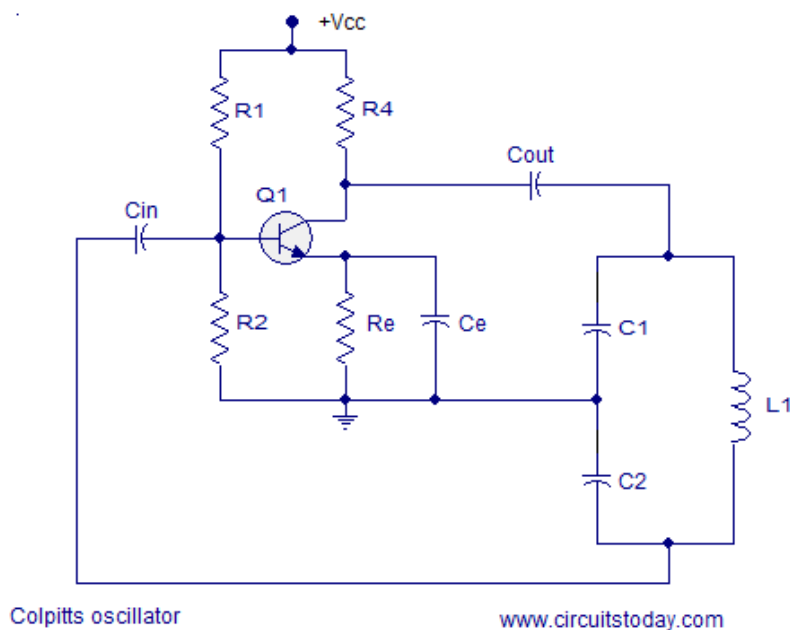

Fig. 2: Colpitt's oscillator
- 1) Complete the circuit as shown in Fig. 2, by connecting the capacitors C1 & C2 provided on panel of the trainer.